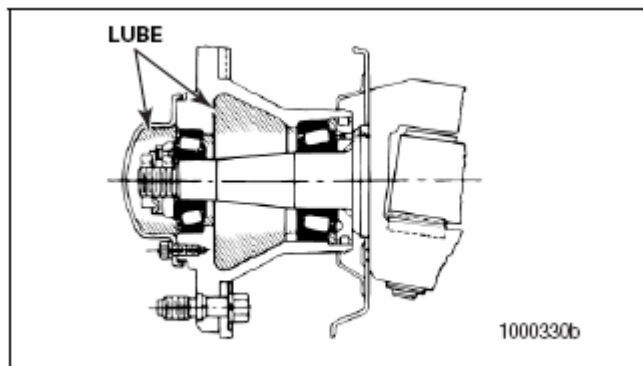

Figure 9.9
- D) Force the specified lubricant from the large end of the cones into the cavities between the rollers and cage. Pack the hub between the bearing cups with lubricant to the level of the smallest diameter of the cups. See Figure 9.9.